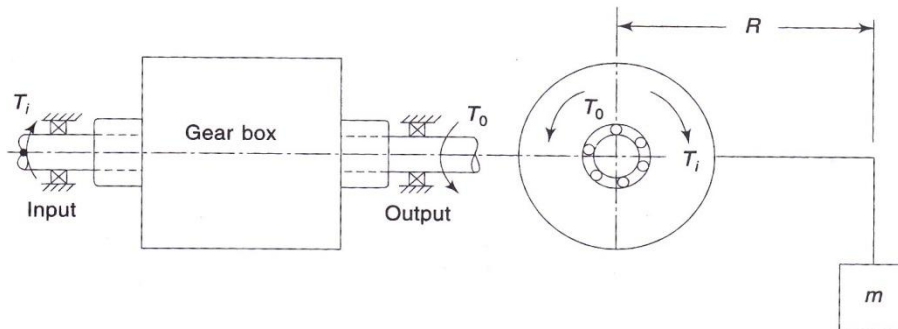

Figure 6(c)
- (c) Refer to **Figure 6(c)**,